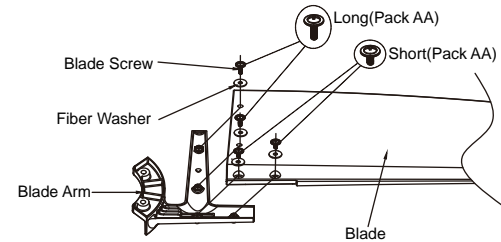

Fig. 15
Step 1. Position one blade over one blade arm with threaded posts as shown. Make sure the bottom edge of the blade is fully seated against the blade arm. With a Phillips screwdriver, place (1) blade screw and (1) washer into the blade and blade arm (do not tighten), repeat for remaining blade screws (3) and washers (3). Tighten each screw securely. Make sure the blade installed flat. Repeat steps for remaining blades. (Fig. 15)”
Remind: There are two kinds of blade screws (one is short and the other is long), see Fig. 15 for details and make sure they are not misused.